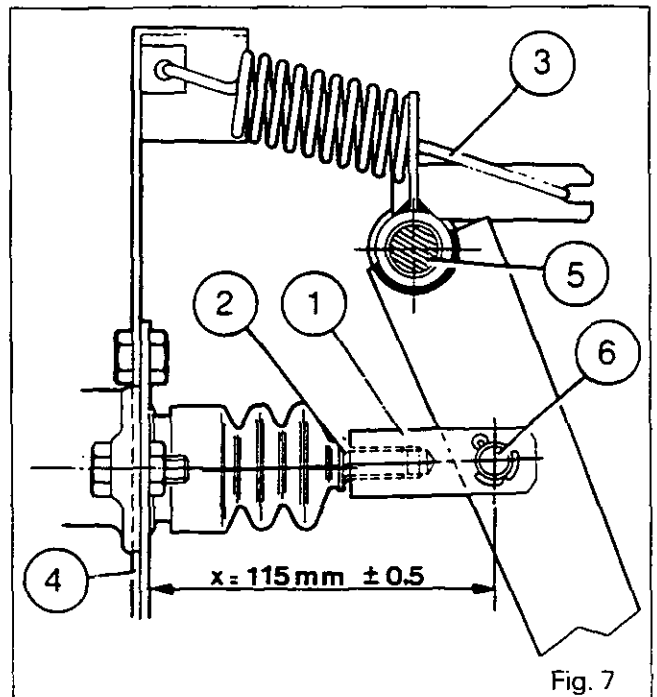

Fig. 7
1. Smear the pins (5) and (6) with molybdenum disulphide (Fig. 7).
2. Smear the clevis (1) with Loctite 542 and screw it on to the rod (2).
3. Fit the return spring (3).
4. Adjust the clevis so as to obtain a distance X of 115 mm \pm 0.5 between the support (4) and the clevis fastening pin.